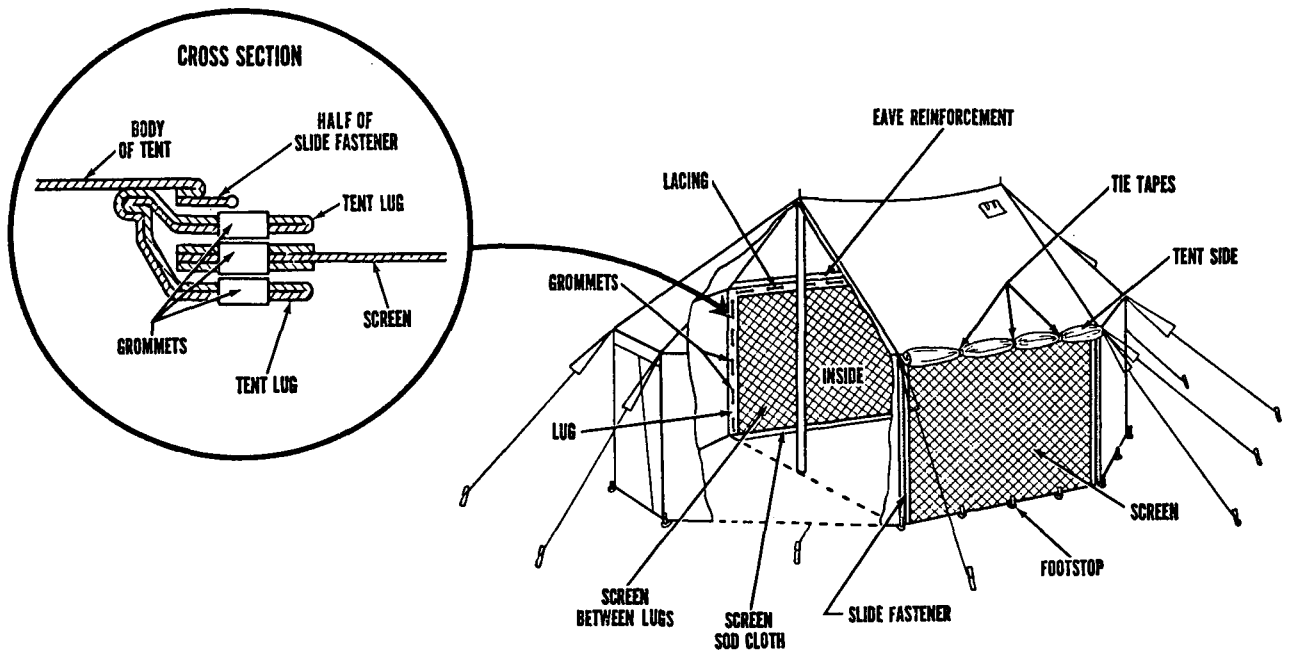

Figure 17. Attaching screens to sidewalls of tent, command post, M-1945.
- (3) *Attaching screens to sidewalls* (fig. 17). Remove footstops from sidewalls, open slide fasteners at corners, and roll up sidewalls and liner of tent and tie them with tie tapes near eave reinforcement. Then place a screen between lugs at each side of tent, alining grommets on screen with grommets on lugs. Run the 13-foot rope, attached to a top corner of screen, through alined grommets of screen and lugs at the top, securing with a knot at the last set of alined grommets. In the same manner, run the 8-foot rope, attached to each side of screen, downward through alined grommets of screen and lugs, securing with a knot at the last set of alined grommets. Fold screens at bottom so sod cloths are on ground inside tent. Fasten footstops that were removed from sidewalls to grommets at bottoms of screens, and attach footstops to the 16-inch pins.